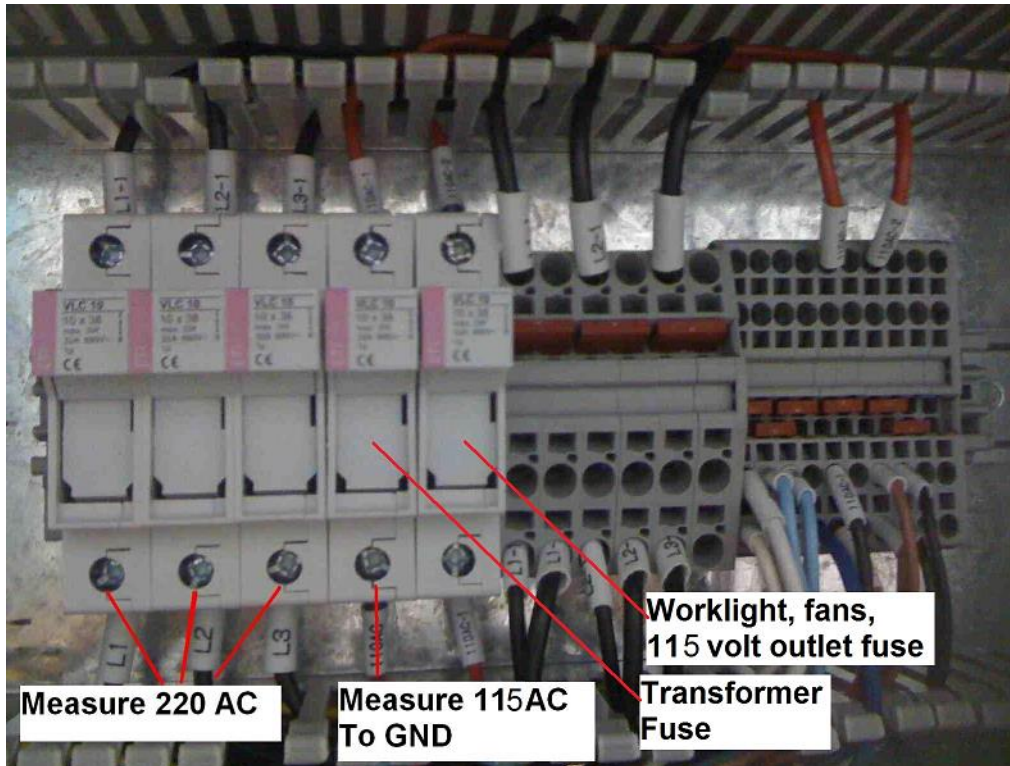

Figure 5.7.1a
1. 220VAC (208 to 240VAC), 3 phase – This is the main power to the entire machine. When measuring this voltage measure between each phase, as seen in figure 5.7.1a.
3. 115VAC (115 to 125VAC), 1 phase – This voltage is produced by the transformer. It is used for power to the computer module, which then powers the axis motors, lube and coolant Pumps. If the voltage coming out of the transformer is not exactly 115VAC, it can be adjusted by moving the wire coming out of the transformer to a different terminal. For example if the 115VAC is actually 130VAC and the wire is currently on the 115VAC terminal, then move the wire to the 104 terminal so that the actual voltage drops to around 120VAC. When measuring this voltage it is best to measure at the Transformer as shown in figure 5.7.1a.